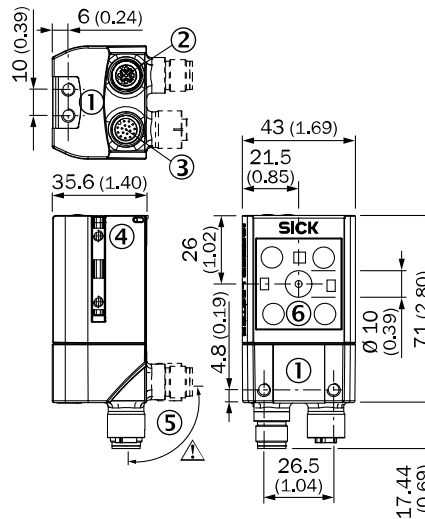

Figure 1: Dimensional drawing
- Mount the EventCam on a bracket supplied by the customer using M5 screws. To do this, either use the threaded mounting holes in the housing in pairs at the front or below or use the two M5 sliding nuts in the lateral slots. Mounting bracket no. 2042902 can be attached at the bottom or on the sliding nuts. Screw the screws no more than 5 mm into the blind tapped holes, see figure 1, page 4